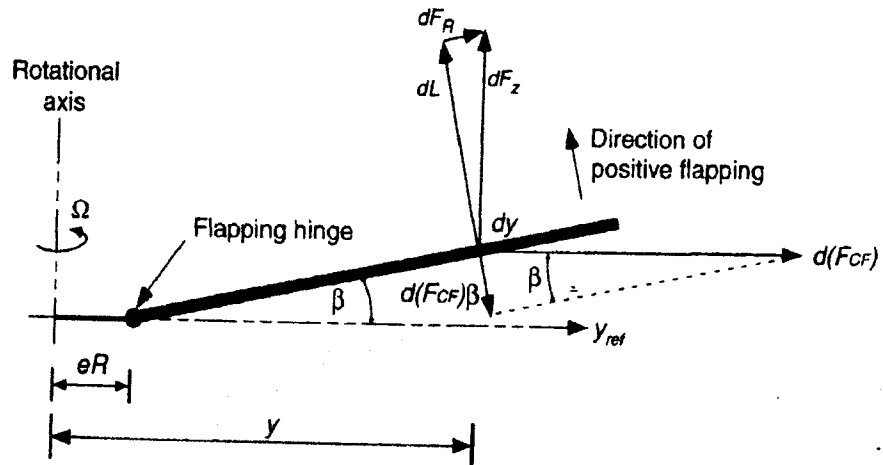

Figure 4.1 Forces diagram on the blade with respect to the flapping hinge point.
4. (a). **Figure 4.1** shows forces acting on one of rotor blade helicopter with respect to flapping hinge point .